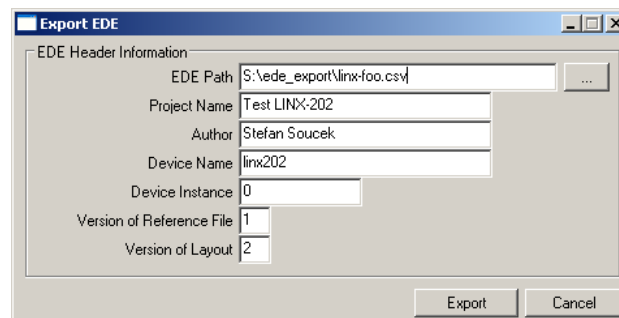

Figure 199: EDE Export Dialog.
- Right-click and select **Export EDE ...** in the context menu. This opens the EDE export dialog to enter the EDE header information as shown in Figure 199.